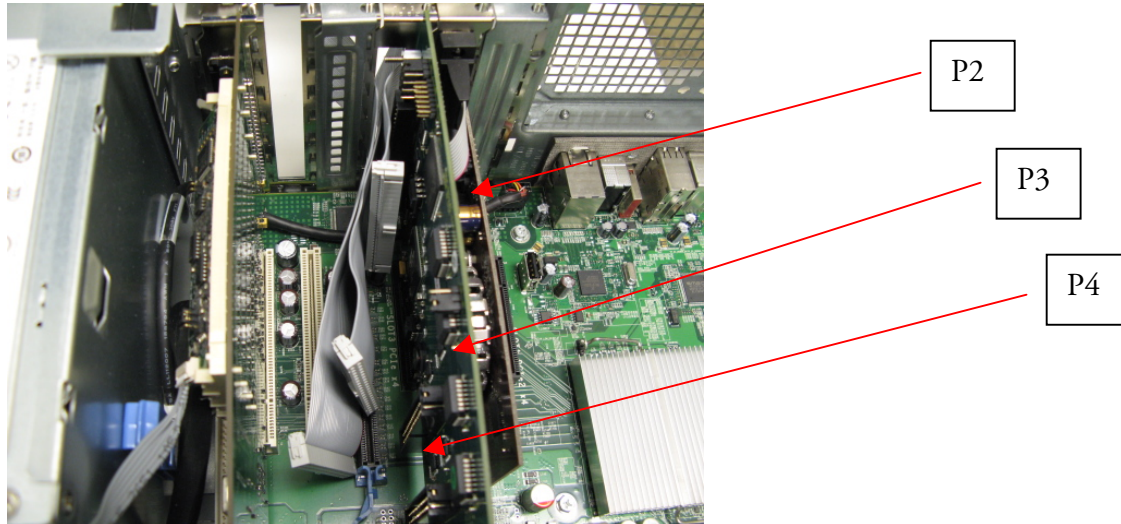

Figure 6. Nested cables in back panel of PC.
6. Remove strain-relief from PCIe card (see Figure 6).